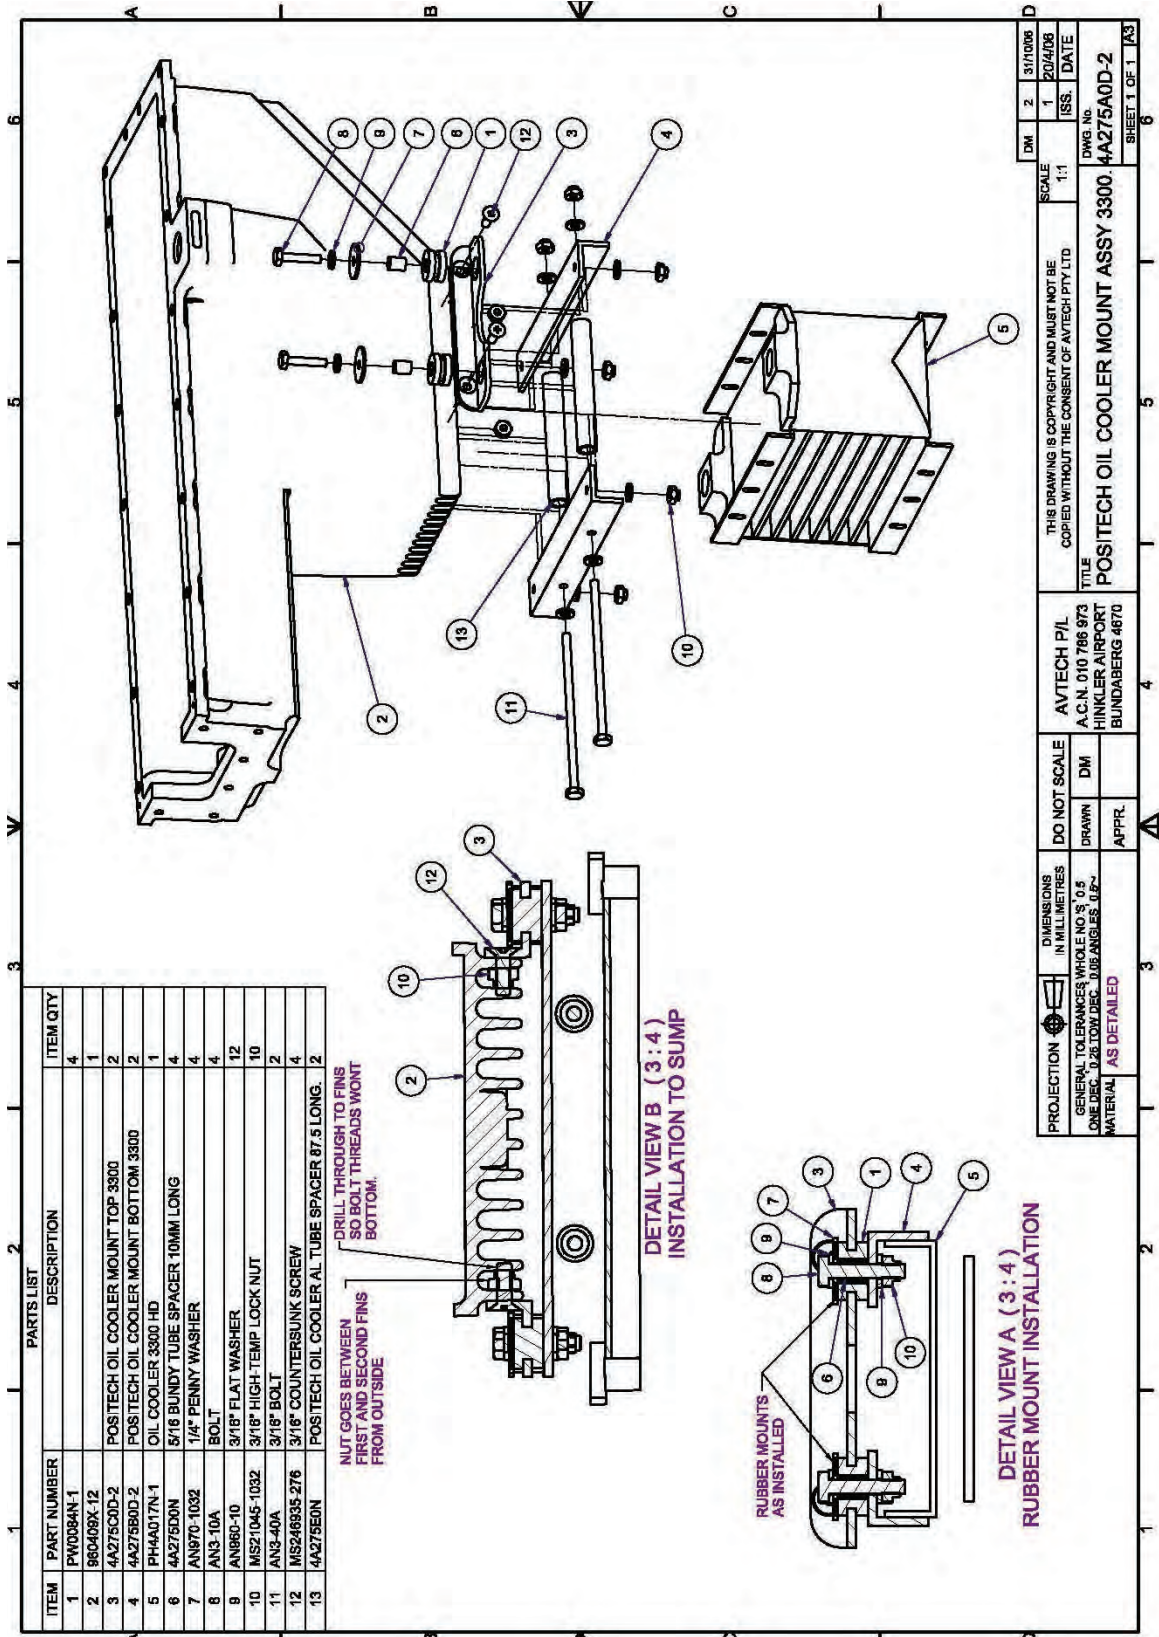

Figure 7-5: Oil Cooler
An oil cooling radiator is mounted at the bottom front of the oil sump. Hoses route the oil from the oil cooler adapter under the filter to the cooler and back. See Figure 7-5.
2. Remove cooler from engine by removing attachment bolts. See Figure 7-5.
1. See Figure 7-5. Reinstall fittings into radiator using Permatex #2 gasket sealant.